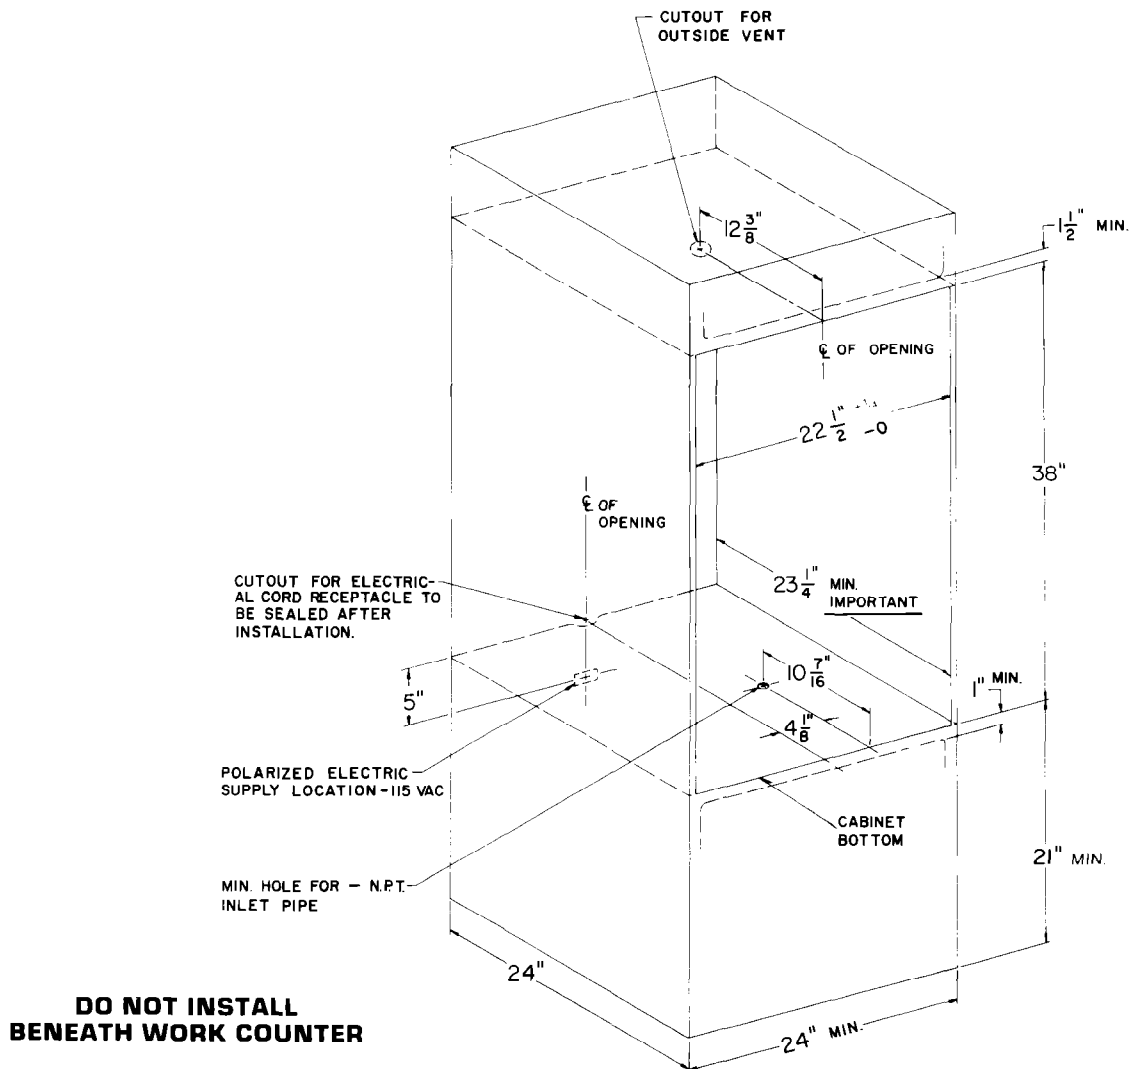

Figure 2
2. Refer to Figure 2 for the size of the cabinet opening needed and the location of the gas and electrical supply.